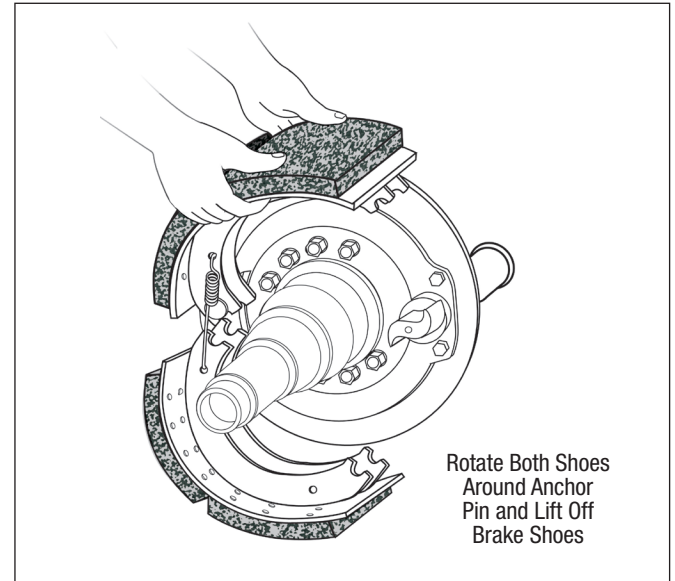

Figure 15 – Shoe Removal
7. Rotate both shoes around the anchor pin and remove them from the vehicle. Refer to Figure 15.